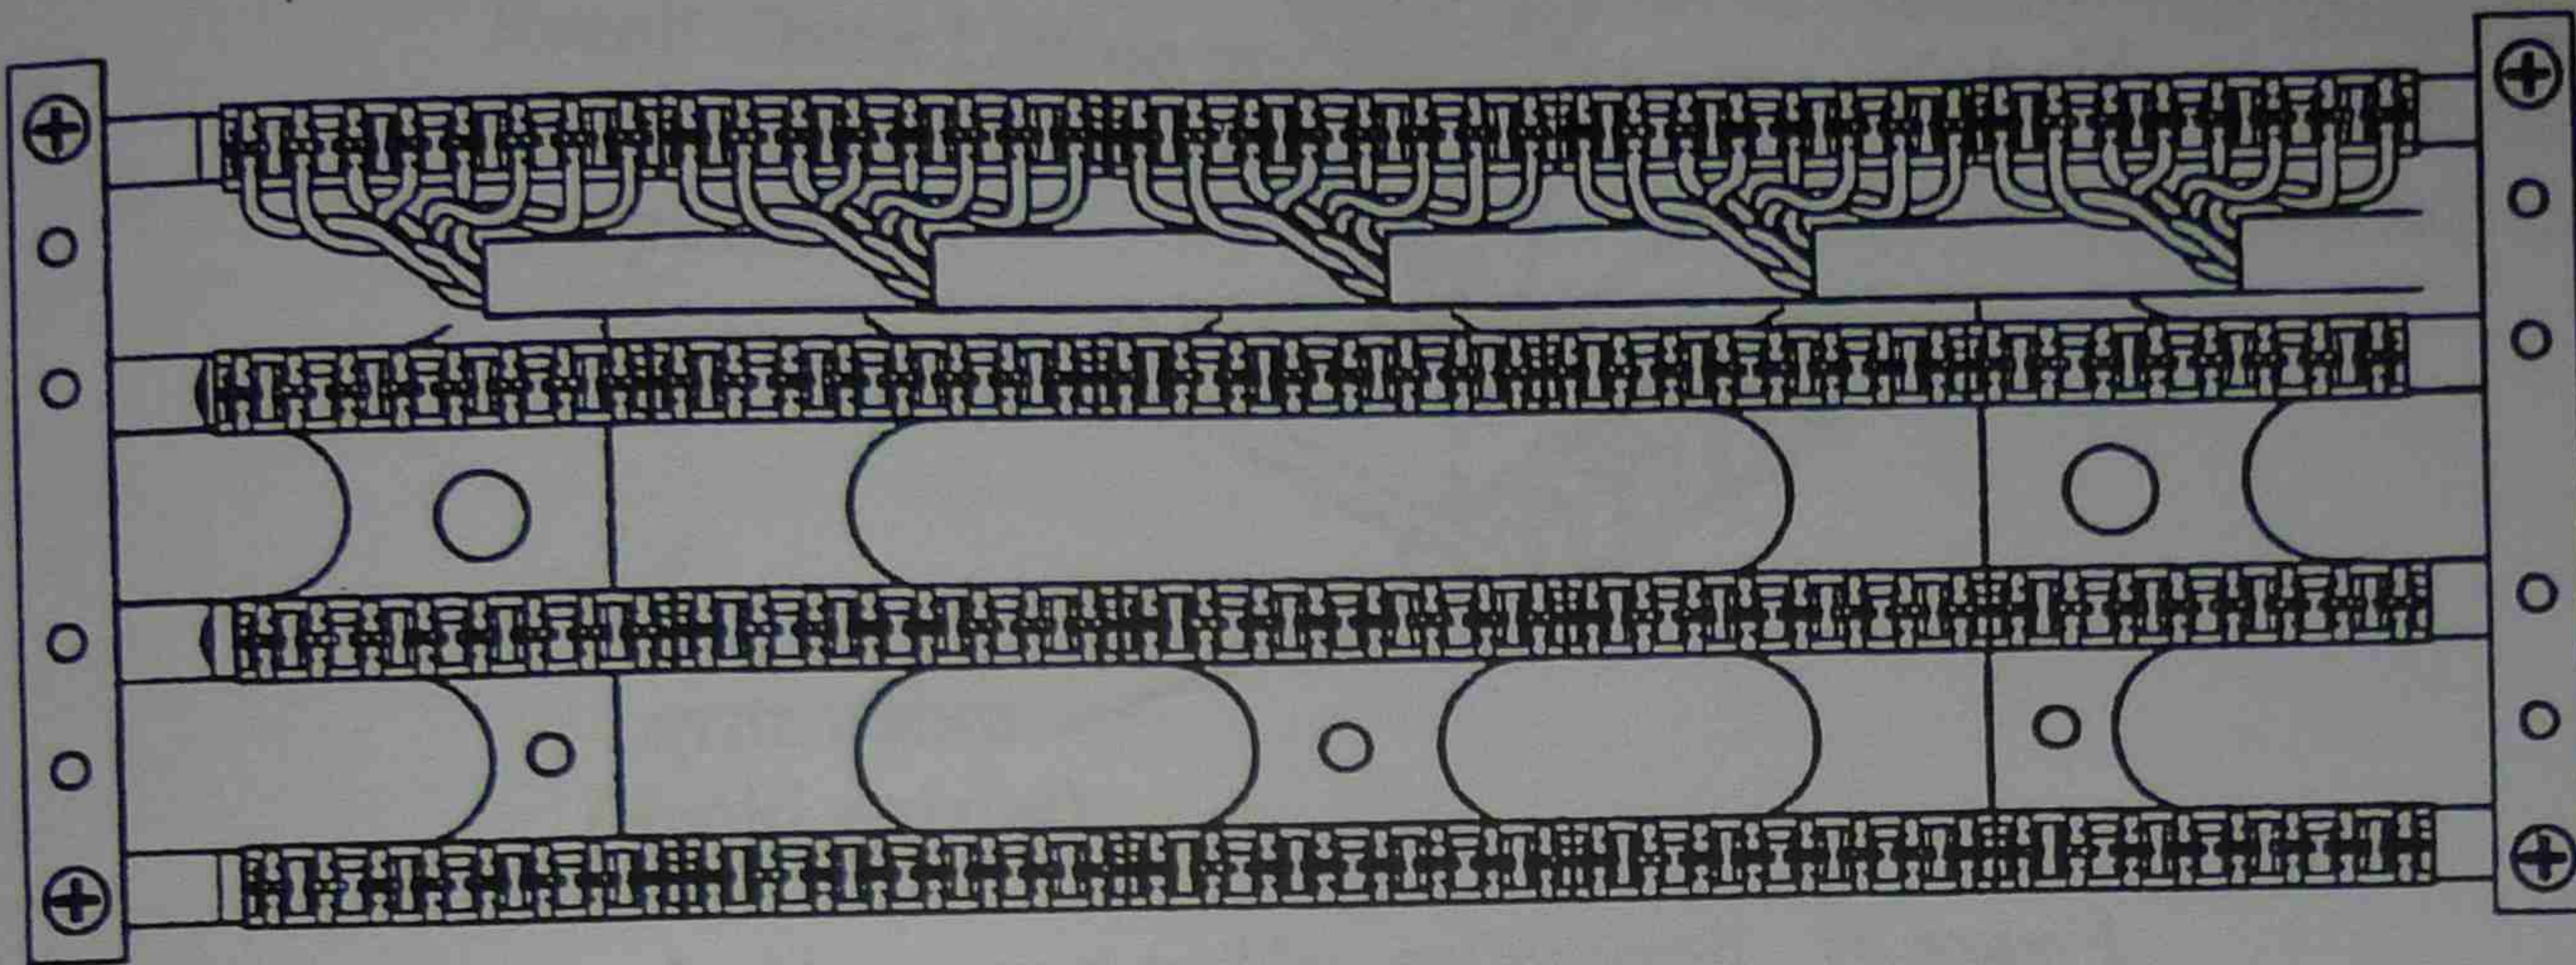

Figure 42 Terminating in the 110 wiring block
11. Lace the wires into the appropriate positions in the 110 wiring block. Be careful to ensure the untwisted length does not exceed 13mm. The cable sheath should finish as close as possible to the point of termination. Use Figures 42 and 43 as a guide.